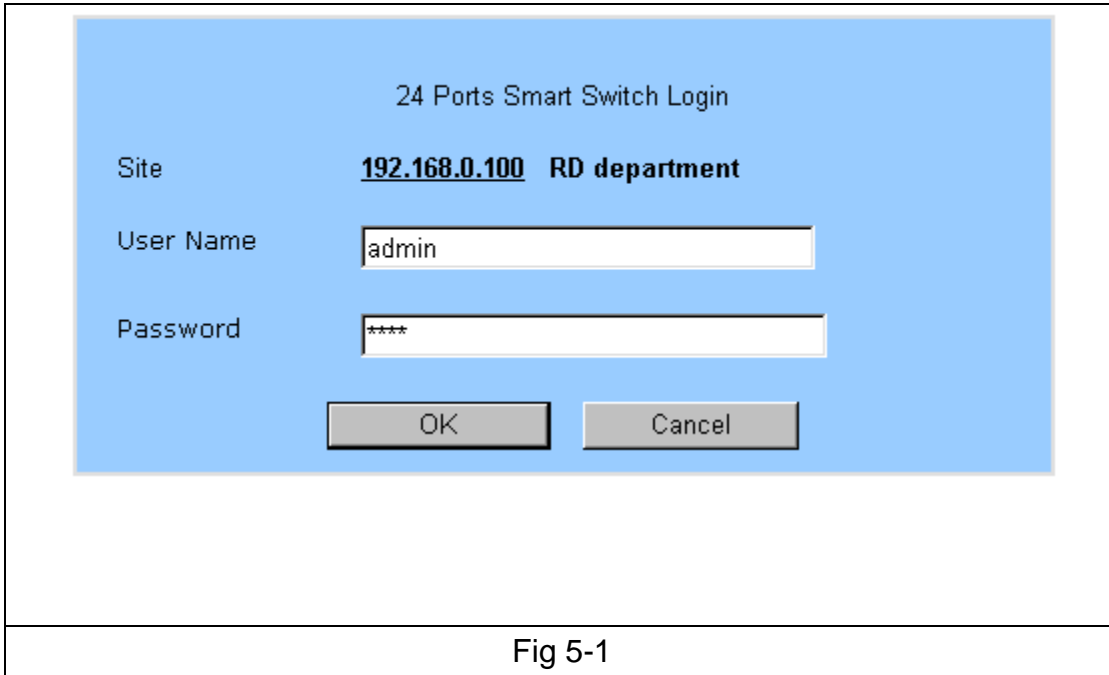

Fig 5-1
1. When a Switch is selected for configuration, the login window for that Switch will pop up. (Fig 5-1)